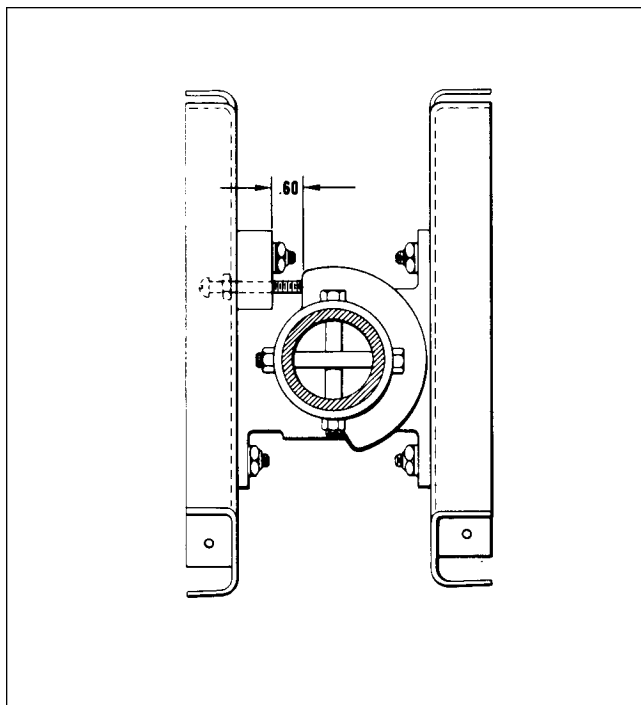

Figure 5-16. Flap Step Adjustment
- d. Adjust the right torque stop screw to obtain approximately 0.60 inch between the stop fitting and the bearing back. (Refer to Figure 5-16.)